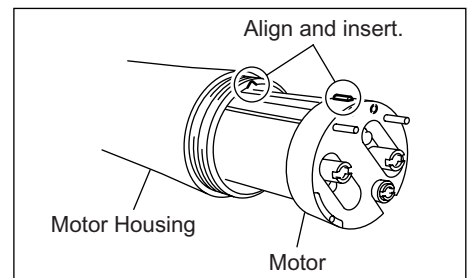

Fig.13
- ④ Insert the motor housing into the motor. Align the locating pin on the motor with the slot in the motor housing, and gently push it in. It is a snug fit.(Fig.13)
- ⑤ To connect, align and insert carefully and firmly the pins of the connector into the pin holes of the motor, and fasten the motor cord nut securely. (See. 3.HANDLING THE MOTOR)